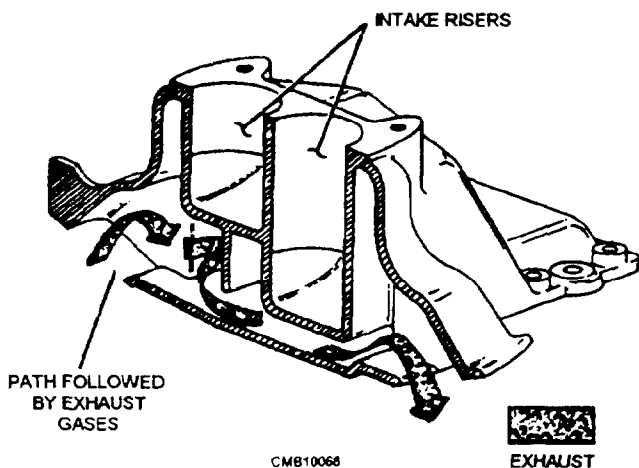

Figure 3-17.—Exhaust-heated intake manifold.
- Directing a portion of the exhaust through a passage in the intake manifold (fig. 3-17). The heat from the exhaust transfers and heats the mixture. The amount of exhaust that is diverted into the intake manifold heat passage is controlled by the manifold heat control valve.